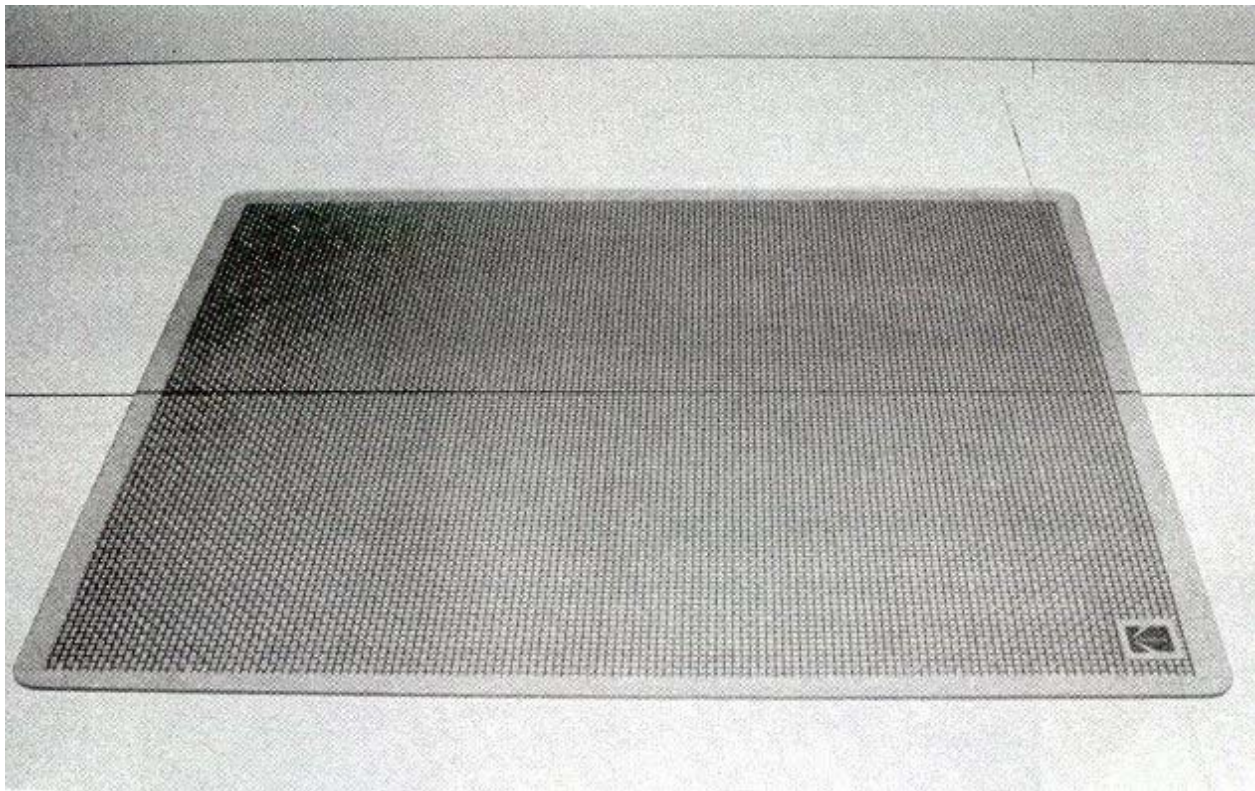

Figure 9-2. Wire mesh test pattern.
- a. Wire-mesh test pattern (see figure 9-2).